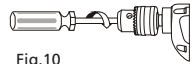

Fig.10
3. Tap the hex key sharply with a mallet (4) in a CLOCKWISE direction. This action will loosen the screw in the chuck for easy removal.
6. Remove the chuck screw using a #2 screwdriver (fig. 10).